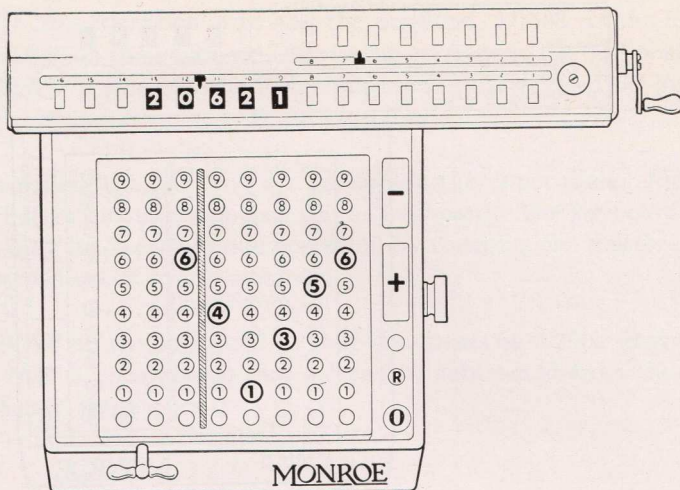

Figure 11
Step 4—Clear the keyboard and upper dials as previously described by means of the master clear key and minus bar. Set 6.41356 on the keyboard and with carriage in “7” position start the division as indicated in Figure 11.